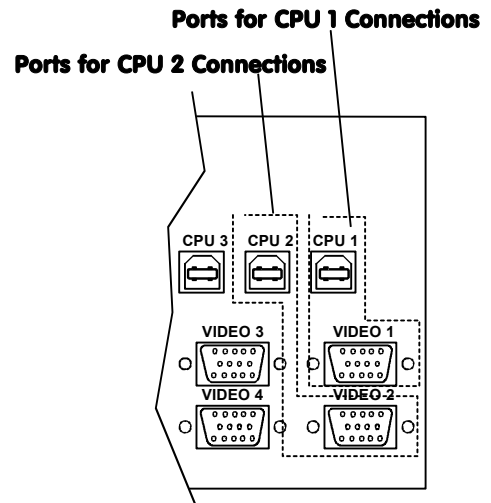

Figure 6- Group CPU ports by like number
- Connect a USB type A cable end of a USBVEXT-xx-MM cable to a USB type A female user device port on a CPU. Connect the USB type B cable end of the same cable to a CPU x port on the UNIMUX switch. Note the port's number. (See Fig. 6.)